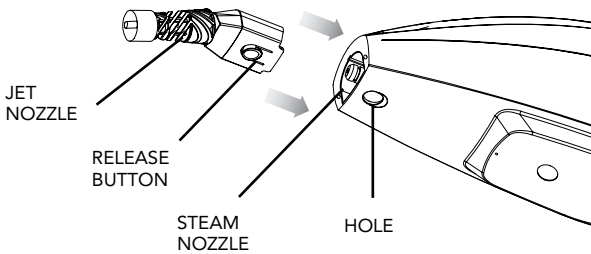

FIGURE 4
1. Align Jet Nozzle with Steam Nozzle as shown (FIGURE 4).